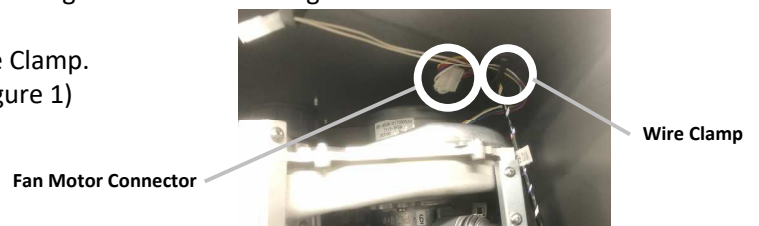

Figure 1
Disconnect the Fan Motor connector. (Figure 1)
- 15) Connect the Fan motor connector. And tie the Wiring Harness by using the Wire Clamps. (Figure 1)